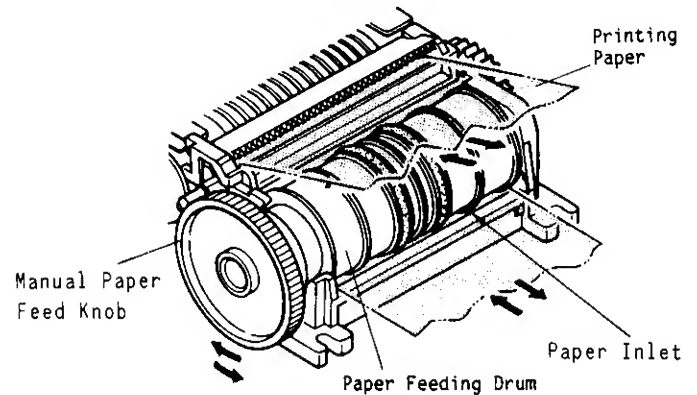

Fig. 3
3. Cut square the paper end, insert the paper end into the paper inlet located on the rear side of the printer, and press the **FEED** key on the keyboard or use the Manual Paper Feed Knob until the paper end comes out of the Paper-cutter Edge. (Fig.3)